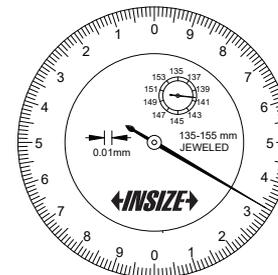

Fig.1
2. It is necessary to calibrate dial caliper with calibrated tool before measuring. Dial caliper measures calibrated tool (Fig.1). If result is equal to the normal value of calibrated tool, dial caliper is ready to measure, otherwise, rotate bezel to set the reading same as the normal value of calibrated tool.